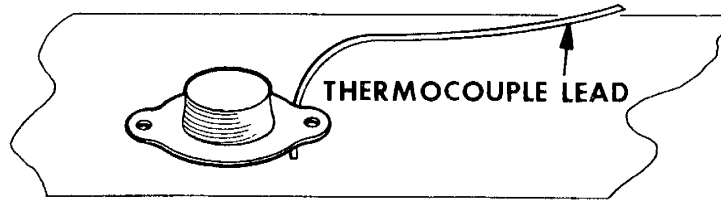

Figure 15
2. Mount the Thermocouple lead between one thermostat mounting ear and plate. See Figure 15.